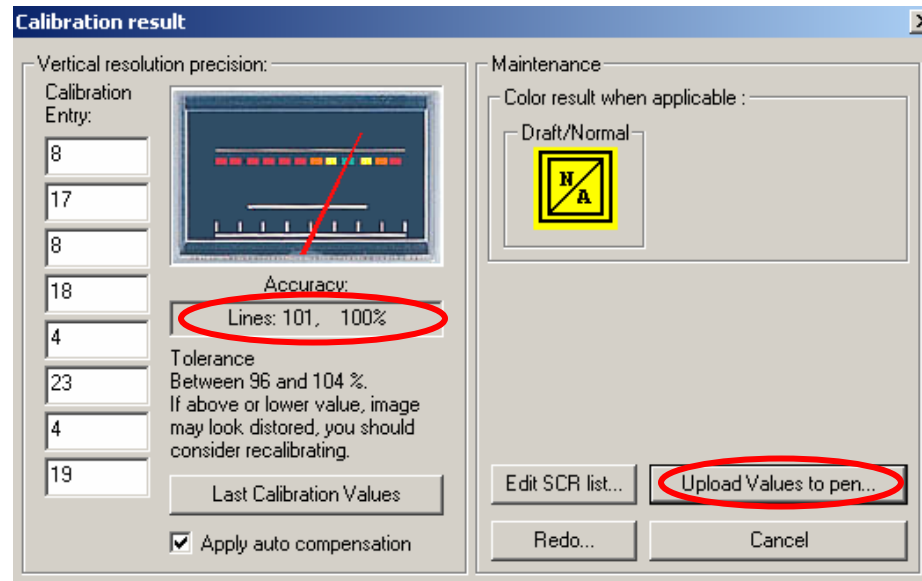

Fig 6
9. The **Calibration result** dialog window will appear. You should see the roller calibration values to the left. If the accuracy is within 96-104%, you have successfully calibrated the rollers! (Fig 6).